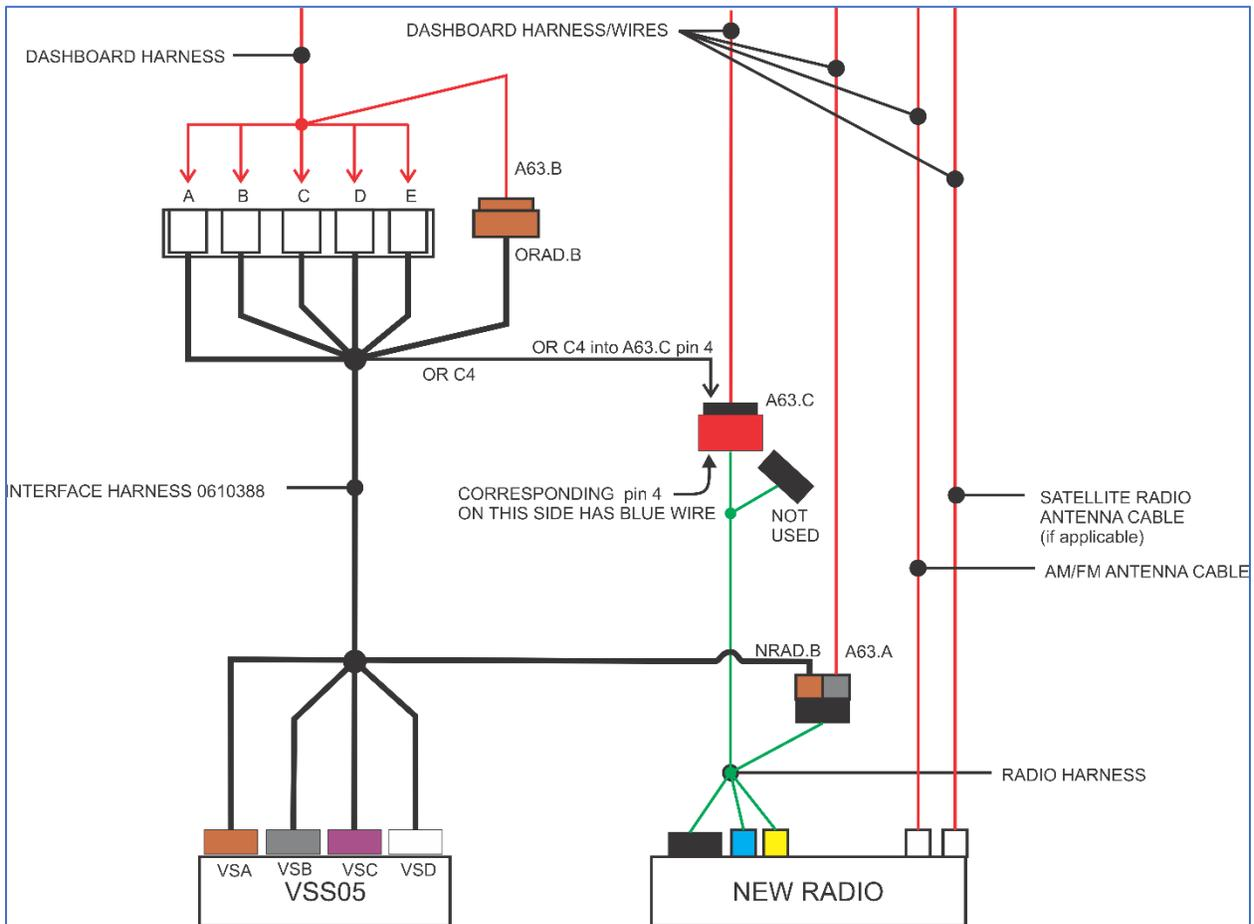
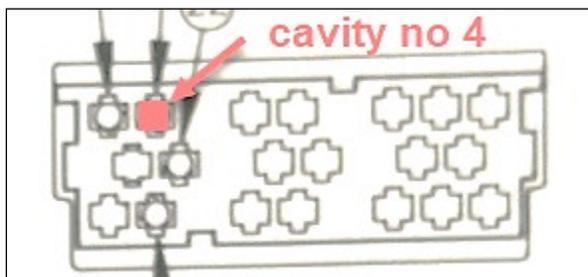

FIGURE 10: CONNECTIONS SCHEMATIC
FIGURE 11: CAVITY NO. 4, SEEN FROM THE BACK (WIRE SIDE) OF THE BLACK CONNECTOR
13. Use the connections schematic (Figure 10) below to connect the dashboard harness to the VSS05 interface harness and the radio harness.
15. Insert **OR C4** circuit terminal into black connector A63.C cavity no. 4 as shown in Figure 10 & Figure 11.